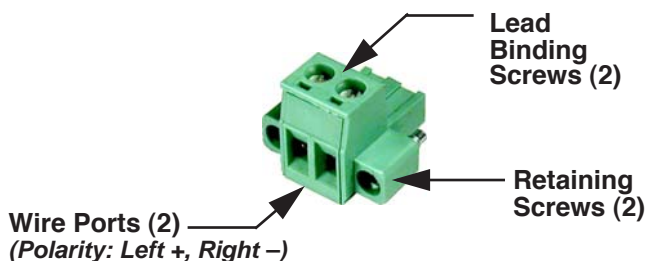

Figure 5. DC Power Connector
4. **Connect primary power to the transceiver.** Power applied must be within 10.5–16 Vdc and capable of continuously providing up to 2 Amperes. A power connector with screw-terminals is provided with each unit (see Figure 5). Strip the wire leads to 6 mm (1/4 inch) and insert in the wire ports. Be sure to observe proper polarity as shown in the Figure 5.